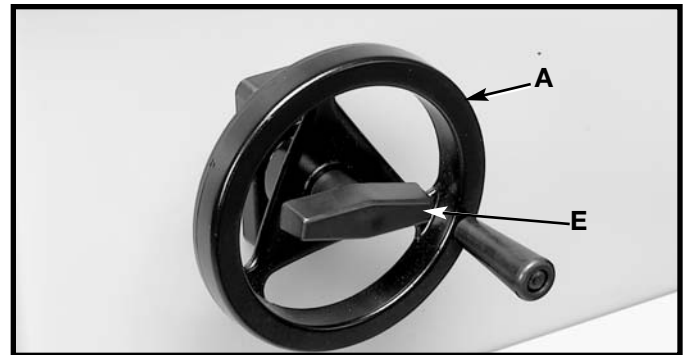

Fig. 10
2. Thread locking lever (E) Fig. 10, on shaft and **tighten securely.**
3. Fig. 10 illustrates the blade tilting handwheel (A) and locking lever (E) assembled to the saw.